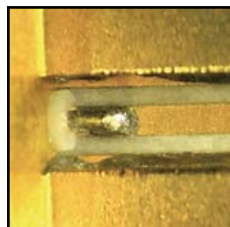

Figure 4
- Once the connector body is properly grounded to the board, the center contact pin can be bonded to the trace by using a minimal amount of solder as shown in Figure 4. It is important that solder flows over the length of the exposed pin, creating a good electrical and mechanical connection. Remove any excess solder that is not required for a good connection.